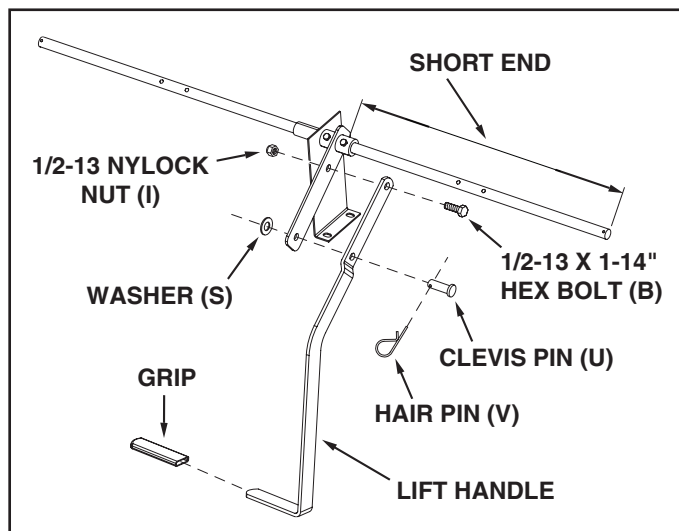

FIGURE 5
6. Fasten the handle to handle bracket using one 1/2-13 x 1-1/4 in. hex bolt and one 1/2-13 nylock hex nut in the lower hole and a clevis pin, washer and hair pin in the upper hole. Slide the plastic grip onto handle. See figure 5.